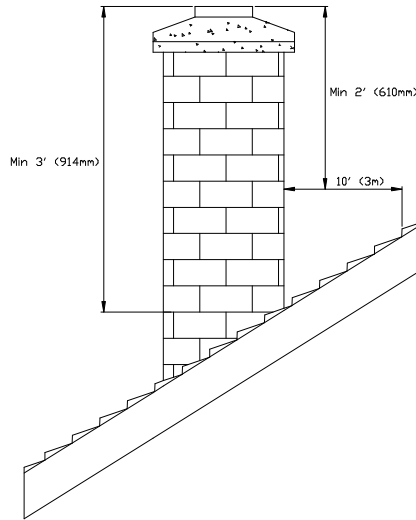

FIGURE 3.2 Minimum Height of the Chimney
- The chimney must rise above the roof at least 3' (0.9 m) from the uppermost point of contact. See Figure 3.2.
- The chimney must exceed any part of the building or other obstruction within a 10' (3.04 m) distance by a height of at least 2' (0.6 m). See Figure 3.2.